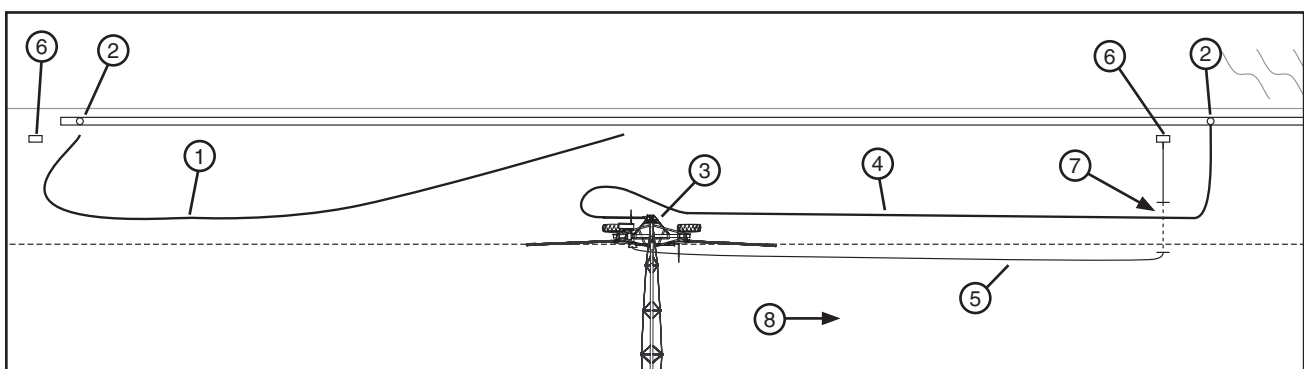

Figure 48-2 1. First Hose 2. Shut Off Valve 3. Swivel Inlet 4. Second hose 5. Electric Cord 6. Power Pedestal 7. Buried Cable Location 8. Direction of Travel
7. Unlatch and disconnect first hose from swivel inlet. Positioning the hose to drain away from the cart path. See figure 48-2.
8. With second hose connected to shut off valve, position second hose, connect to swivel inlet and latch in place. Reposition the end of field/hose stop for the length of the second hose being used. See figure 48-2.
- Position the electric cord as shown. When applicable, prevent interference between the electric cord and the hose by burying the electric cord in the ground as shown. Allowing for the hose to travel over the buried portion of the cord. See figure 48-2.